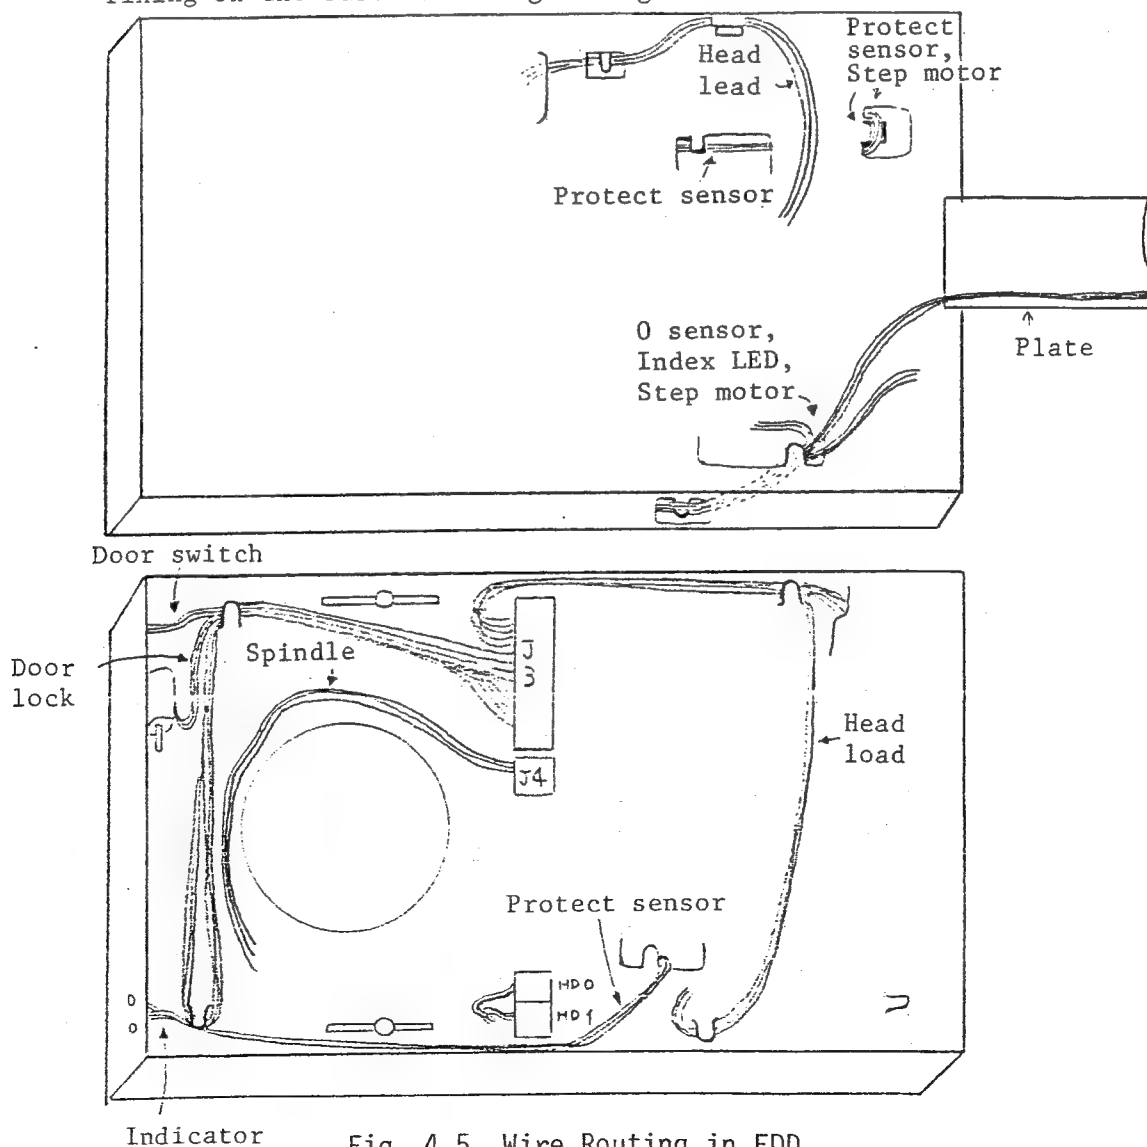
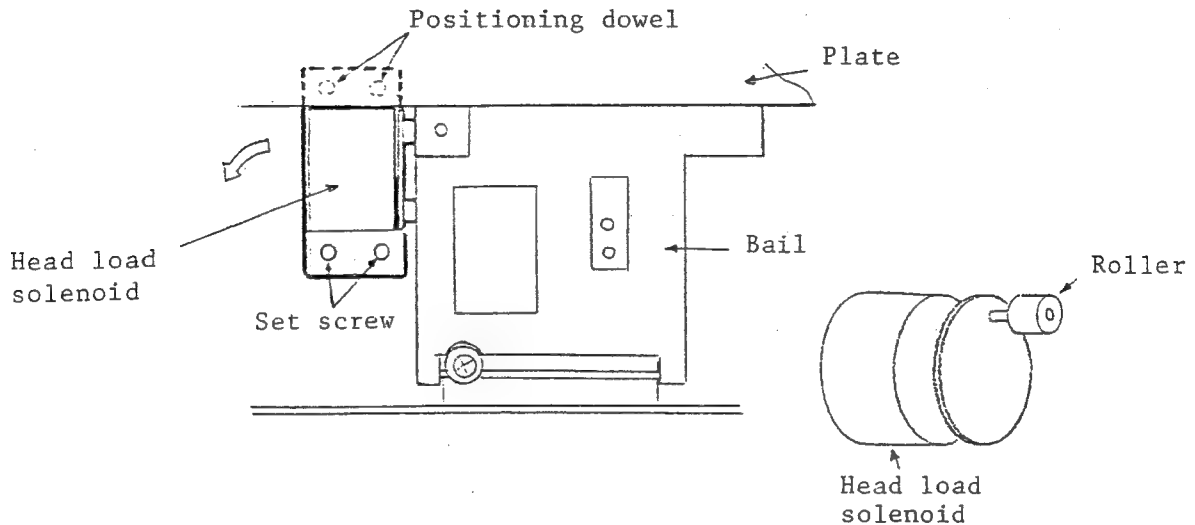

Fig. 4.5 Wire Routing in FDD
Fig. 4.8 Head Load Solenoid
After replacement, perform wiring with each clamper used for fixing on the base according to Fig. 4.5.
- (1) Tools and measuring instrument to be used:
- (2) Disassembling
- (e) Remove head load solenoid set screws ($M4 \times 2$). While holding the bail steady by hand, pull out the solenoid in the arrowed direction (Fig. 4.8). Use care to keep the roller in place.
(3) Assembling
- (c) Install wiring according to 4.2.3 (wire routing shown in Fig. 4.5).
- (b) Install wiring according to 4.2.3 (wire routing shown in Fig. 4.5).
(4) Adjustment
- (3) Assembling
- (c) Install wiring according to 4.2.3 (wire routing shown in Fig. 4.5.)